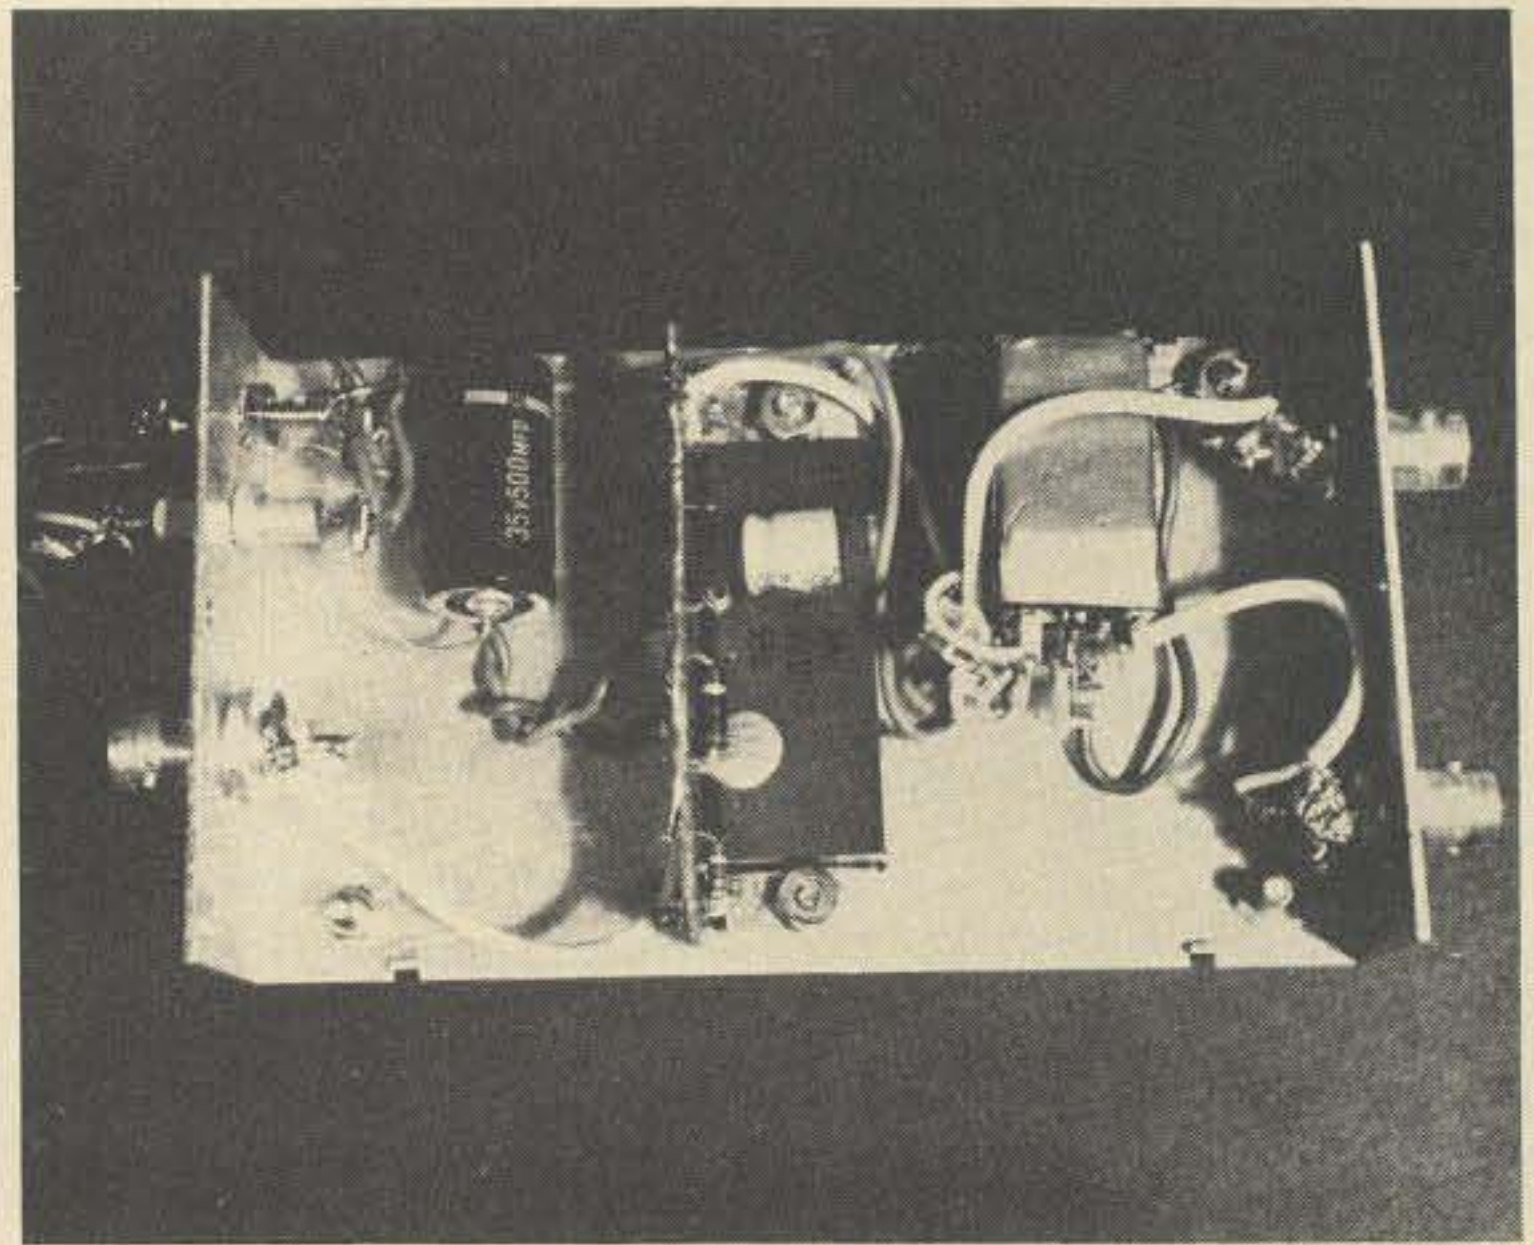

Fig. 9. Internal (bottom) view.
7. Mount 3 BNC connectors, feedthrough capacitor and ground lugs to chassis. As shown in Fig. 9, also secure a #8 terminal lug to one of the screws holding the heat sink to the chassis. This is the relay ground lug.
10. Position the relay as shown in Fig. 9. Terminals A and B will be up. Solder the #8 terminal to the copper foil at the end of the relay opposite from the contacts. This will partially secure the relay in place while also grounding the relay's shield.